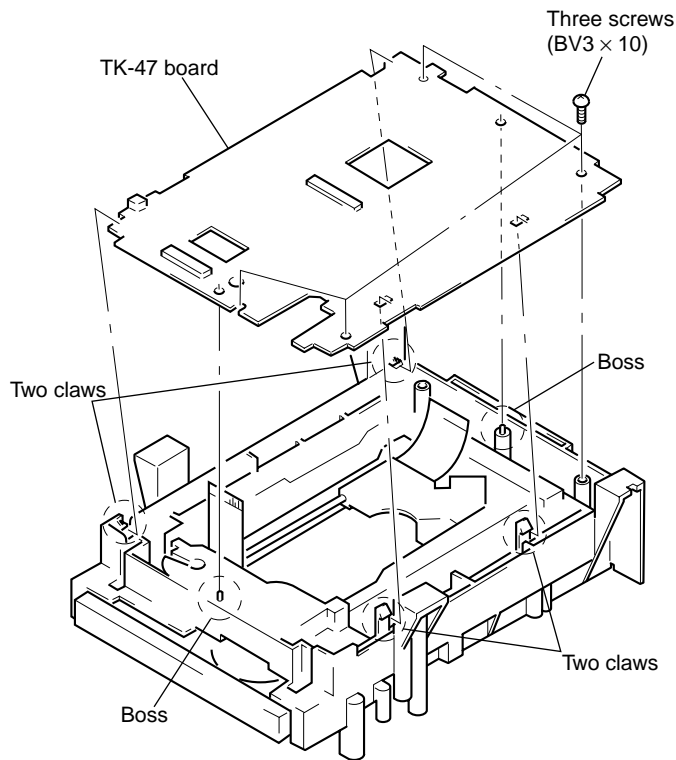

Fig. 13
- 1) Align two bosses. (See Fig. 13)
- 2) Align four tabs. (See Fig. 13)